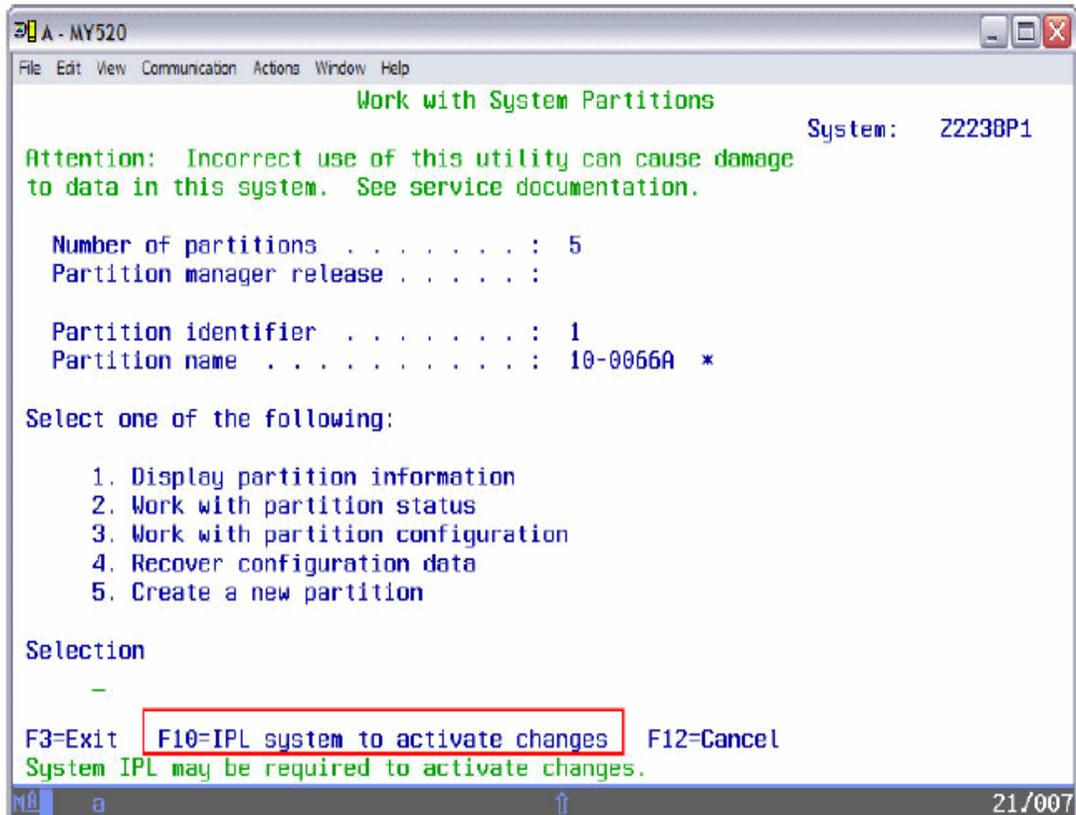

Figure 13-18 Ready to IPL from Work with System Partitions
7. Select the F10 function key as shown in Figure 13-18.